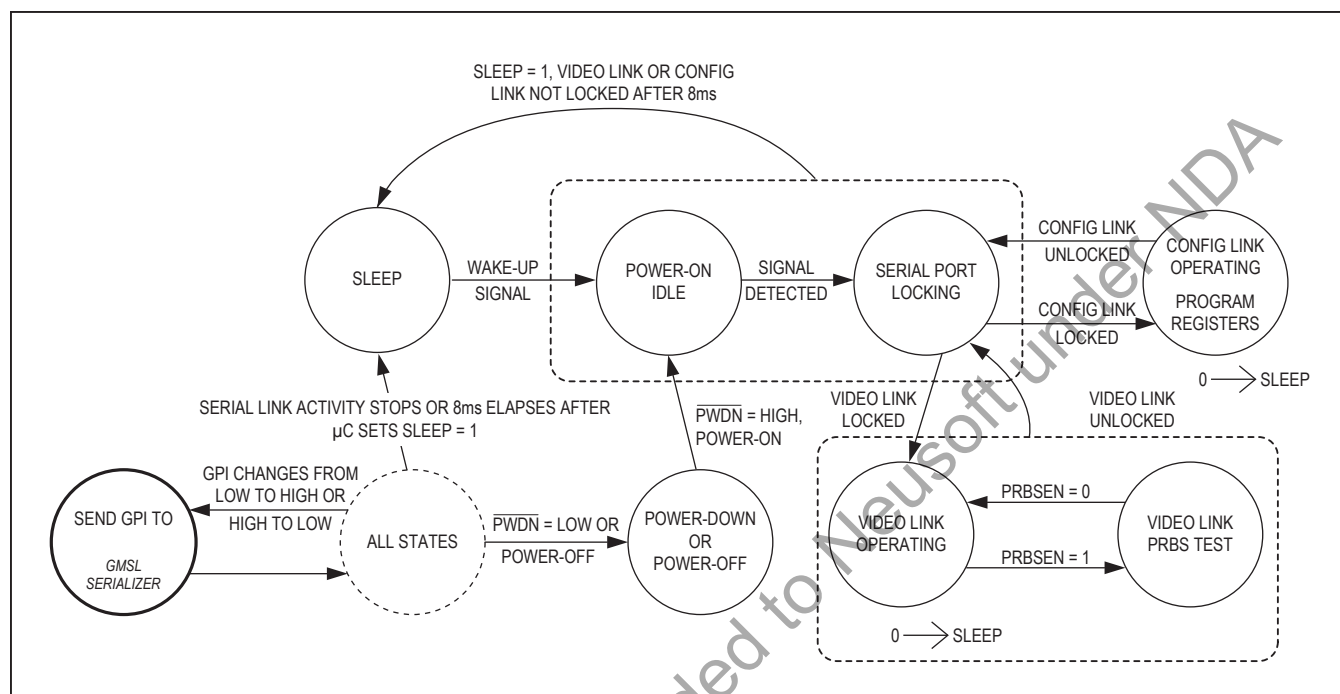

Figure 46. State Diagram
Table 23. Startup Procedure (see Figure 46)
**Table 23. Startup Procedure (see Figure 46) (continued)**